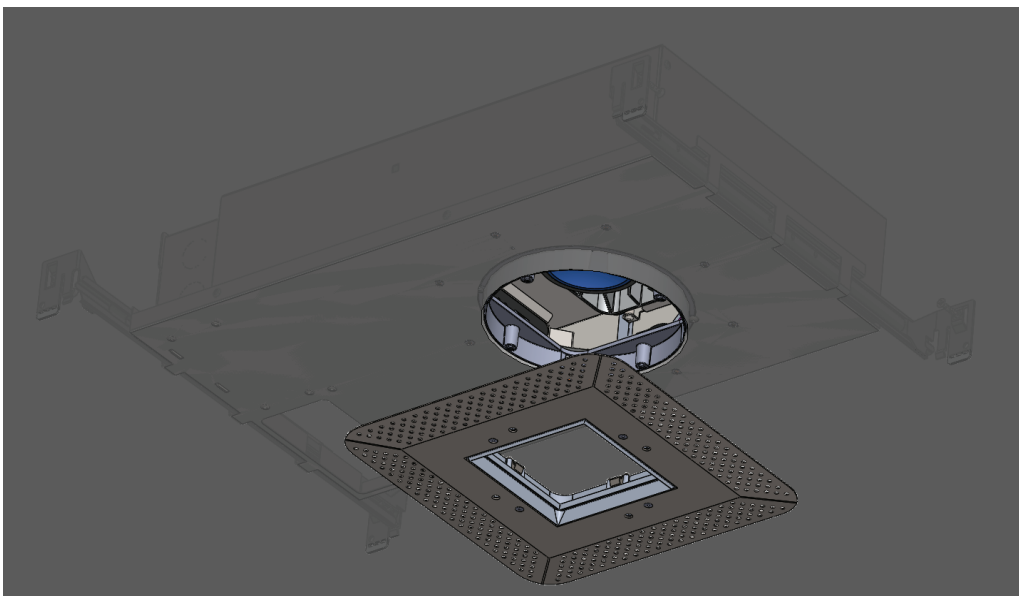

fig. 9
1. Align the retainer assembly such that the holes in the retainer line up with the screw posts in the collar. (see fig. 9)